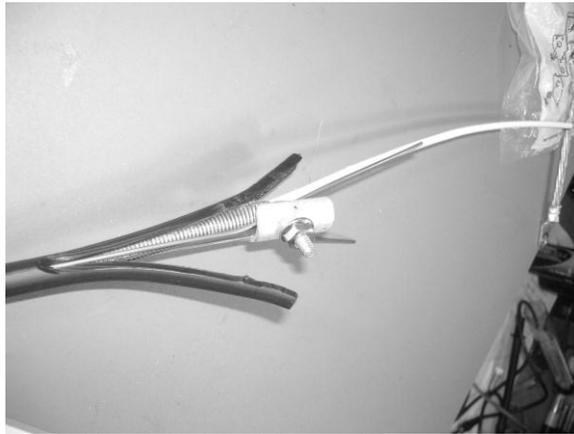

Figure 14 - Install top half of bond clamp.
- 3.6** Assemble the top half of the bond clamp over the armor and fasten to the stud with a lock nut (Figure 14).